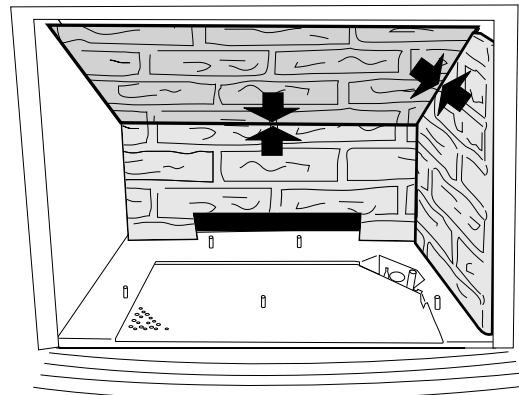

Figure 42. Install Upper Rear Panel
6. **Install the Upper Rear Panel.** Simply rest it on the other two panels. Fig. 42.